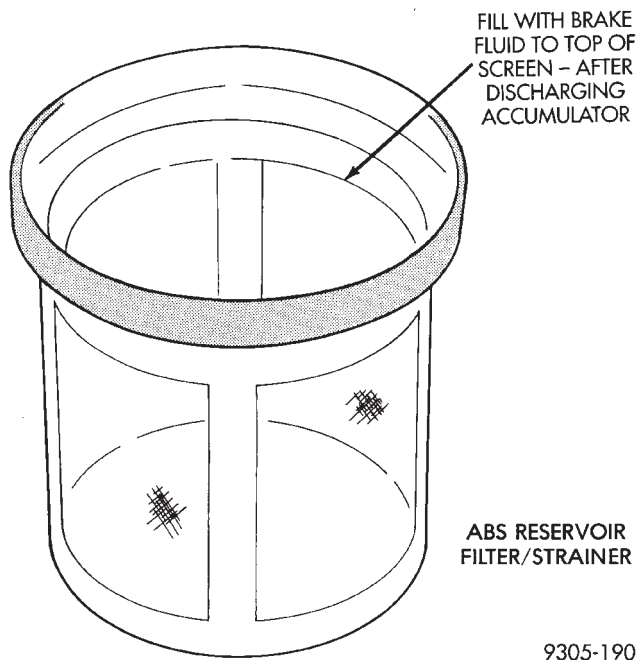

Fig. 9 ABS Fill Level On Filter/Strainer
- (8) Fill hydraulic assembly brake fluid reservoir to top of screen on the reservoir filter/strainer Fig. 9.
- (9) Connect all electrical connectors to the hydraulic assembly.
- (10) Bleed the entire brake system, see Bleeding Brake System in this section of the Service Manual.